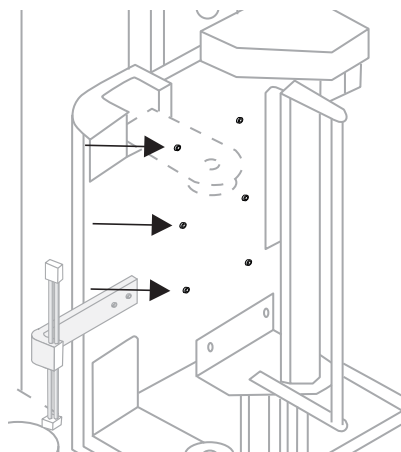

Figure 9
8. Tighten up all 6 bolts on the back of the carriage. (See Figure 9)